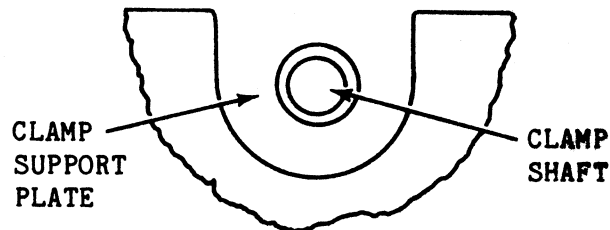

Figure 4-12. Clamp Support Plate Clearance
The clamp support plate (see Figure 4-12) provides the mounting surface for the clamp. The clamp shaft must be centered in the support plate hole such that the shaft does not touch the support plate, either on the side or via the C-clip which secures the clamp shaft, when the receiver assembly is in the loaded position.
- e. Clearance should exist between the clamp shaft and the clearance hole in the clamp support plate (see Figure 4-12). If clearance does not exist, adjust per steps f and g.